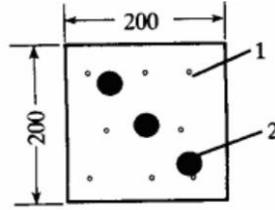

Figure 1.5 Schematic diagram of the distribution of test points
- (1) The ultrasonic measuring points are arranged in the same measuring area of the rebound test, and each measuring area is arranged with three measuring points, as shown in Fig. 1.5;